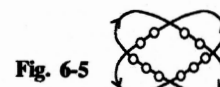

Fig. 6-5
5. Twin four-ridge tubular braid or Two square-braids at one shot (Fig. 6-5)